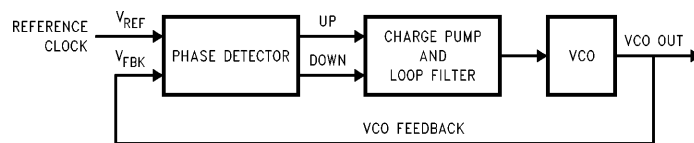

FIGURE 1. Basic PLL Block Diagram
A basic Phase Locked Loop (PLL) consists of a Phase Detector (PD), Low Pass Filter (LPF), Charge Pump (CP) and Voltage Controlled Oscillator (VCO). When put together, these blocks make up a control loop as shown in *Figure 1*.